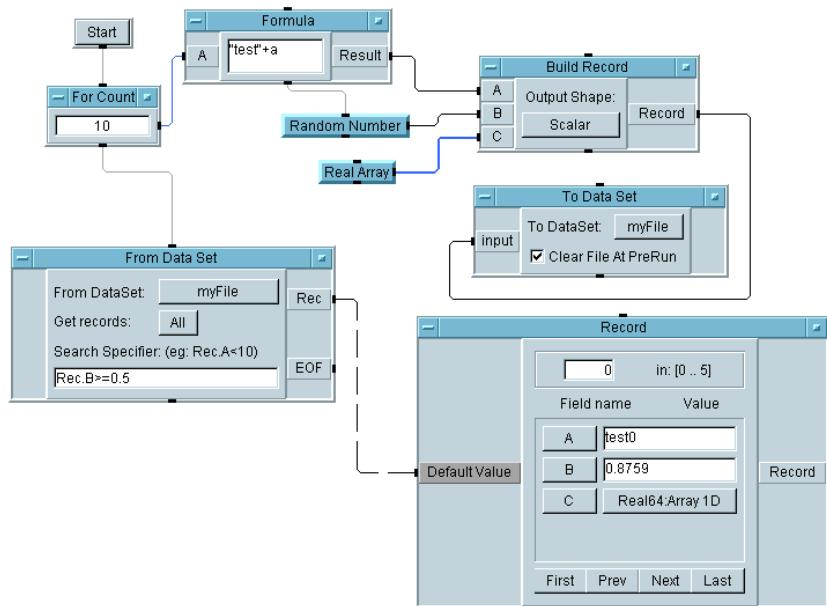

Figure 5-16. A Search Operation with DataSets
3. Add an `EOF` pin that will fire if no records match the criterion in the expression field. Place the cursor over the data output area of the `From Data Set` object, and press **Ctrl-A**. An `EOF` output pin is added to the `From Data Set` object, as shown in Figure 5-16.